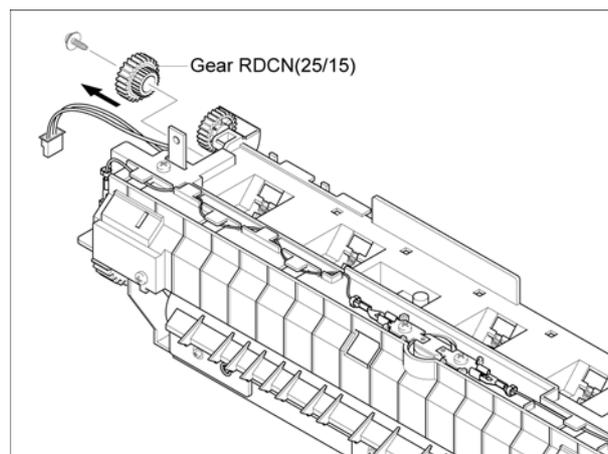

Figure 5
6. Remove 1 screw, Gear RDCN(25/15), then Gear 25, Figure 5.